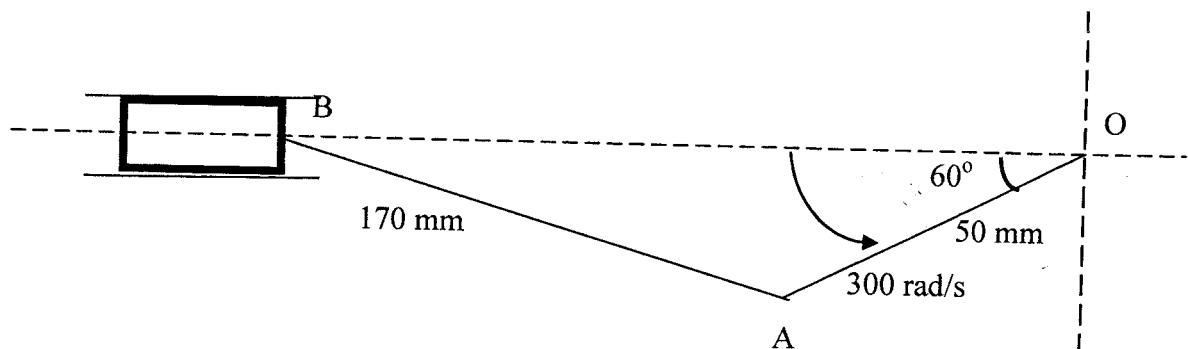

Figure S3
- (c) Figure S3 show a piston, connecting rod and a crank mechanism. The crank rotates counter clockwise direction at a constant velocity of 300 rad/s.